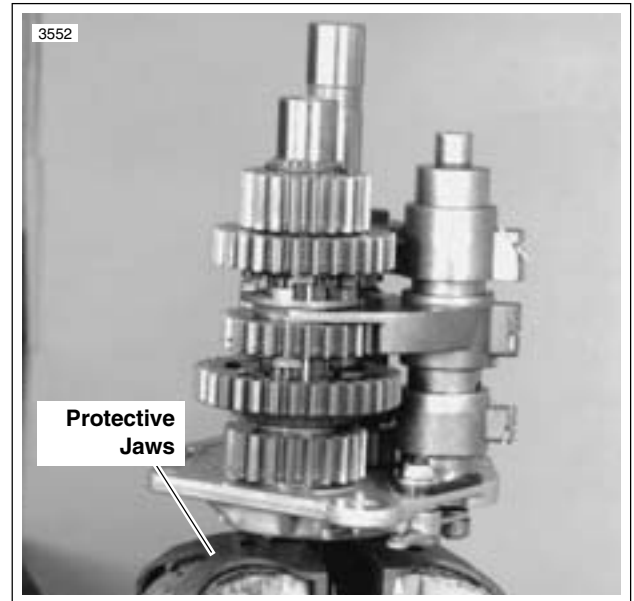

Figure 6-32.
1. Remove transmission assembly. See 6.7 TRANSMISSION CASE. See Figure 6-32. Clamp transmission assembly in a vise, with protective jaws, to work on disassembly.